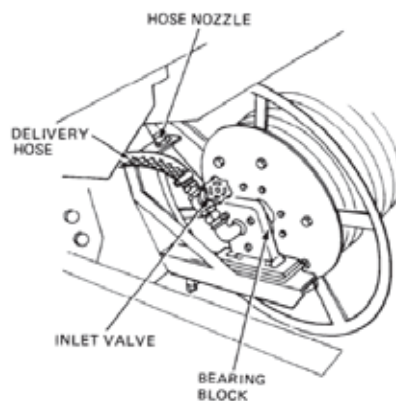

Figure 9 Rear Hose Reel
- b. Loosen the hose clamp securing the hose reel delivery hose to the inlet valve (Figure 9).
- q. Wind the hose onto the reel so that the nozzle can be inserted into the nozzle retainer (Figure 9).